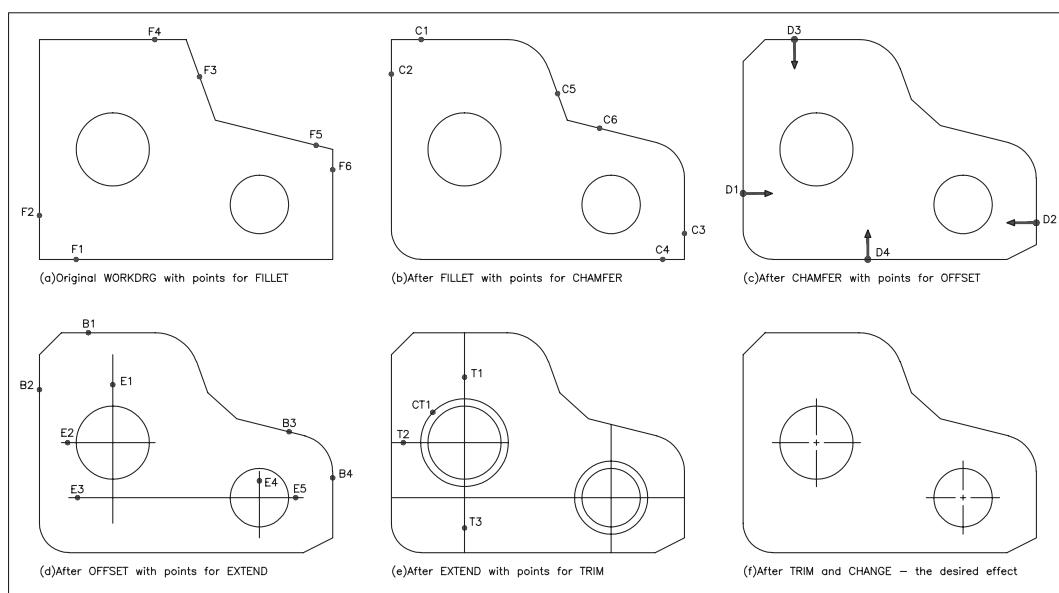

Figure 12.1 WORKDRG with the fillet, chamfer, offset, extend, trim and change commands.
- 3 Refer to Figure 12.1.
respond pick line F1 - Figure 12.1(a)
- 7 The result of the fillet operations is displayed in Figure 12.1(b).
prompt Select first line and pick line C1 - Figure 12.1(b)
- 8 Figure 12.1(c) displays the result of the chamfer operations.
- 4 Refer to Figure 12.1(c), select the **OFFSET icon** from the Modify toolbar and: